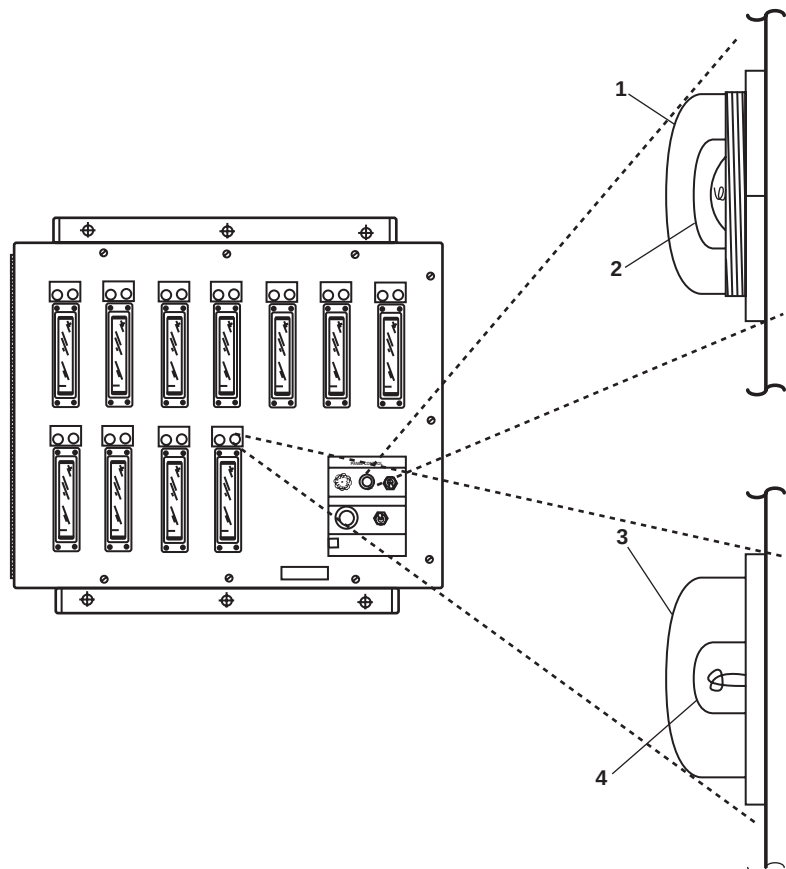

Figure 1. Tank Level Indicator Panel
1. Remove the protective lens cover (figure 1, item 1).
2. Remove the bulb (figure 1, item 2).
1. Install the bulb (figure 1, item 2) finger tight.
2. Install the protective lens cover (figure 1, item 1) finger tight.
1. Remove the protective lens cover (figure 1, item 3).
2. Remove the bulb (figure 1, item 4).
1. Install the bulb (figure 1, item 4) finger tight.